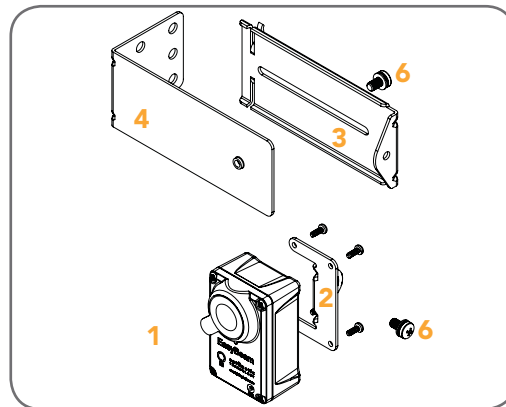

fig 09
- Attach the mounting bracket (4) to the adjustment bracket (3) with the pan head screw (6) (supplied). (Fig. 09)